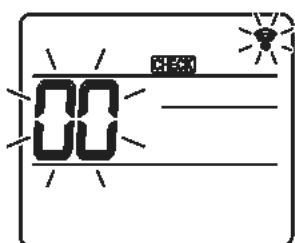
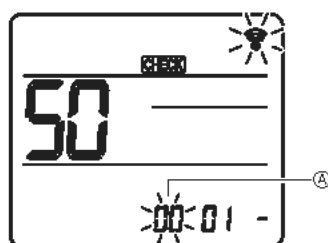

Fig. 7-16
Fig. 7-17
7.4.2. By wireless remote controller (Fig. 7-16, Fig. 7-17, Fig. 7-18, Fig. 7-19)
① Going to the function select mode
(Start this operation from the status of remote controller display turned off.) [CHECK] is lighted and "00" blinks. (Fig. 7-16)
② Setting the unit number
- Press the [DOWN] button to set unit number ①. (Fig. 7-17)
③ Select a mode